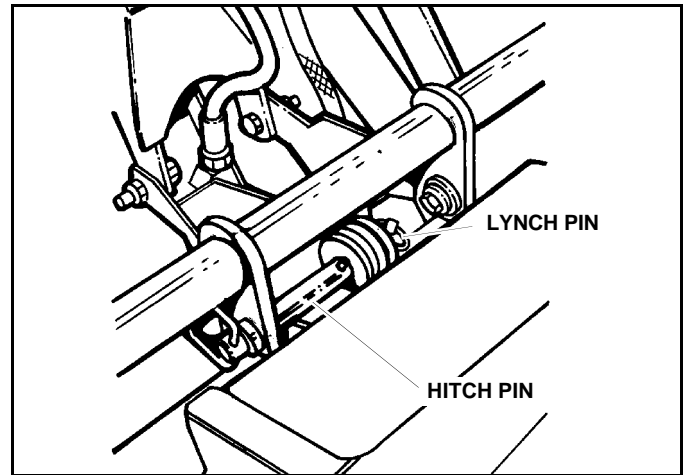

Figure 1-15
9. Align lift bar assemblies and install center pivot Hitch Pin, install Lynch Pin into Hitch pin to secure it in place. (See Figure 1-15)